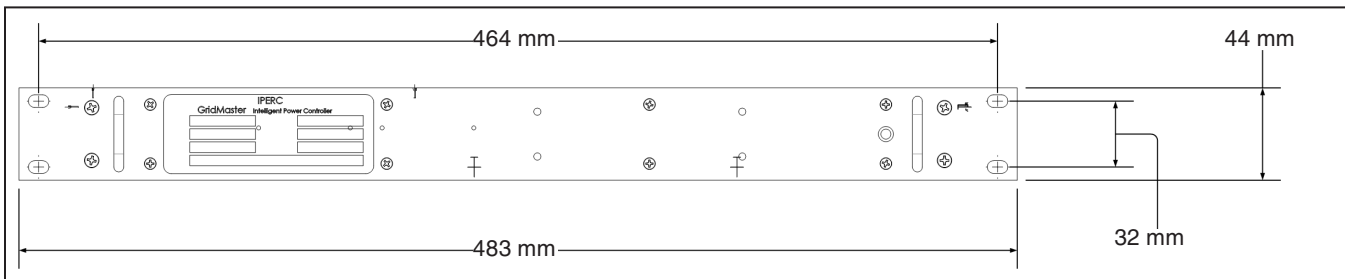

Figure 2. Rack dimensions and mounting hole centers.
- STEP 2.** Slide the microgrid controller into a 1U slot and use the appropriately sized mounting screws (10-32, 12-24, and M6 screws are most common) to install the GridMaster controller to the rack. See Figure 2. For installation in a rack without threaded holes, cage nuts and screws are recommended. Tighten the screws.